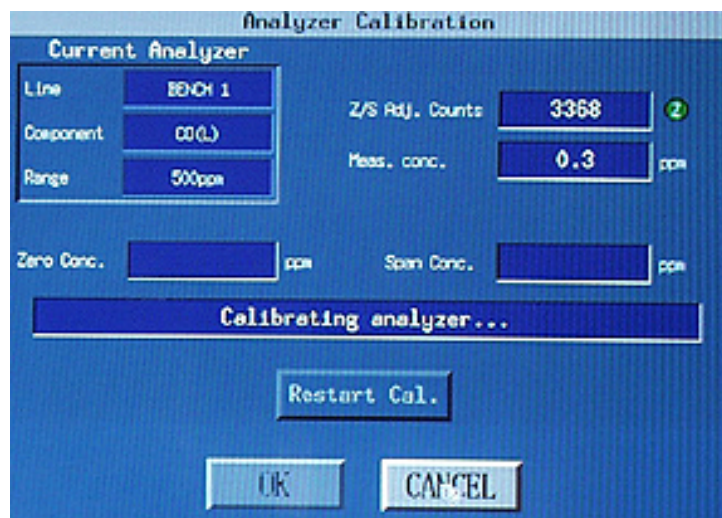

Figure 16
- 114 The “Analyzer Calibration” screen will appear, See Figure 16. When completed, “Calibration successfully completed” will appear. Click on “OK.” The “Interference Check Result Reset” panel will appear. If “Calibration Failed” appears, the process was not successful.